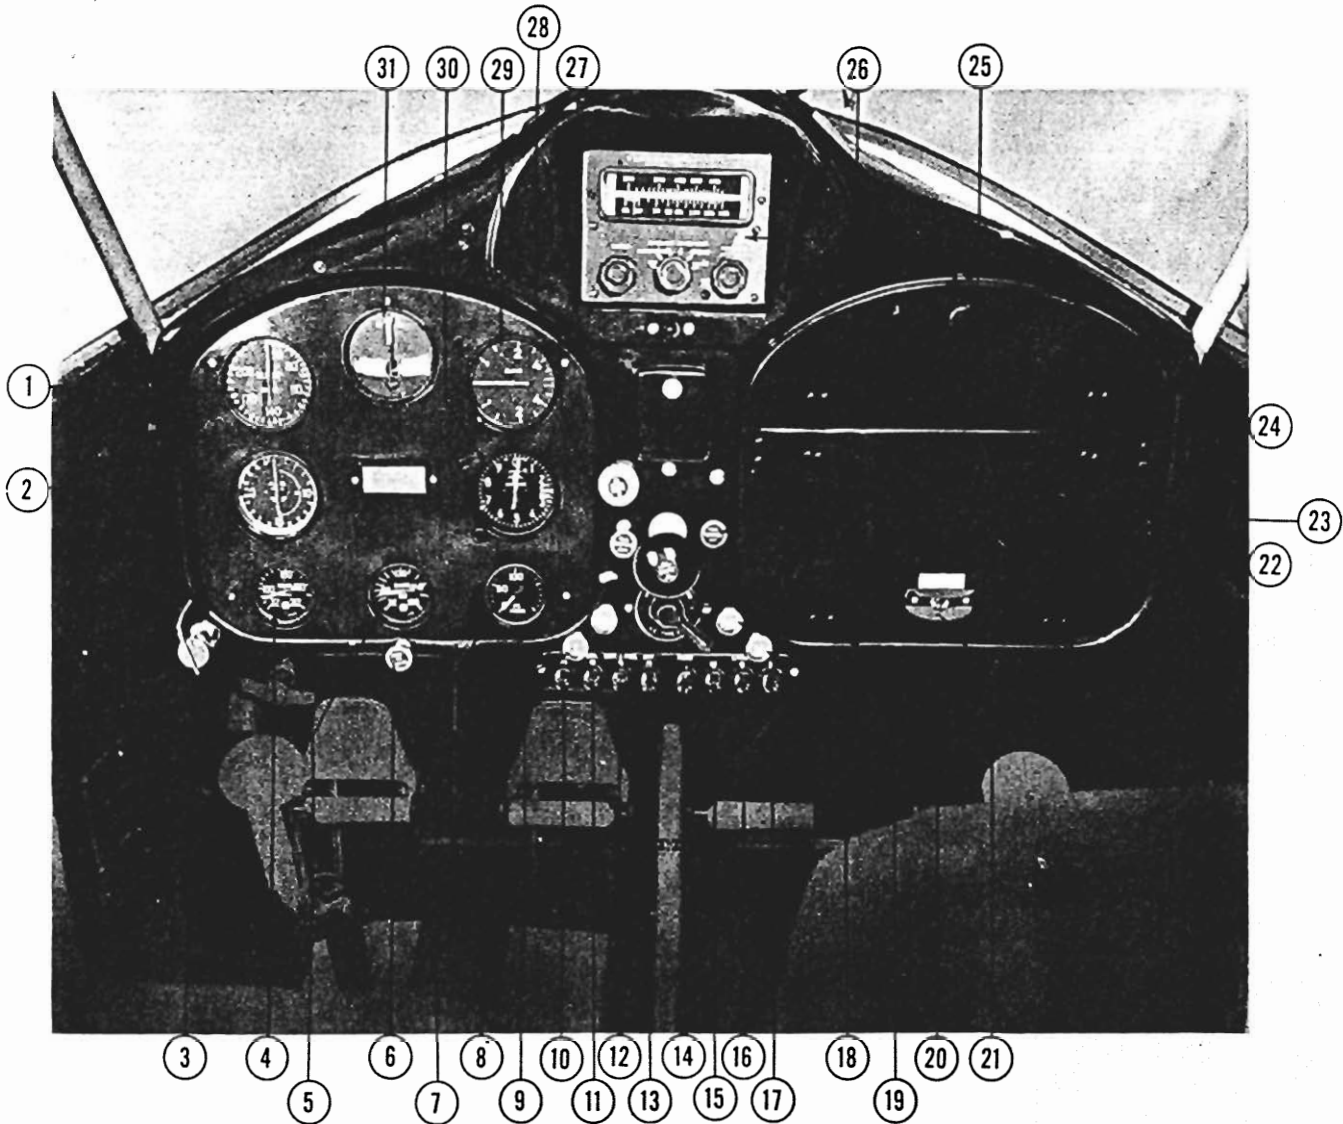

Figure 2-1—Instrument Panel
5. POWER PLANT CONTROLS. Power plant controls are flexible type operating in a casing with friction regulators to hold them in a set position. They are located on the center of the instrument panel for easy access to both pilot and copilot. (See figure 2-1.) These controls consist of a throttle, mixture, carburetor air temperature and, on the Warner powered airplane, a spark control. The Ranger powered airplane does not require a spark control since one magneto is equipped with an impulse coupling for starting. A primer pump for injecting fuel directly into the engine is installed and operated by a handle on the lower left side of the instrument panel.
11. INSTRUMENT PANEL. (See figure 2-1) The instrument panel extends the width of the cabin forward of the pilot and copilot. The instrument panel contains, immediately in front of the pilot on the left side, a shock mounted panel which carries the flight and engine instruments necessary for the easy and safe operation of the aircraft. The central portion of the panel mounts engine controls and electrical switches. Radio is installed at the top center of the panel when specified. An ash tray is provided on the instrument panel.